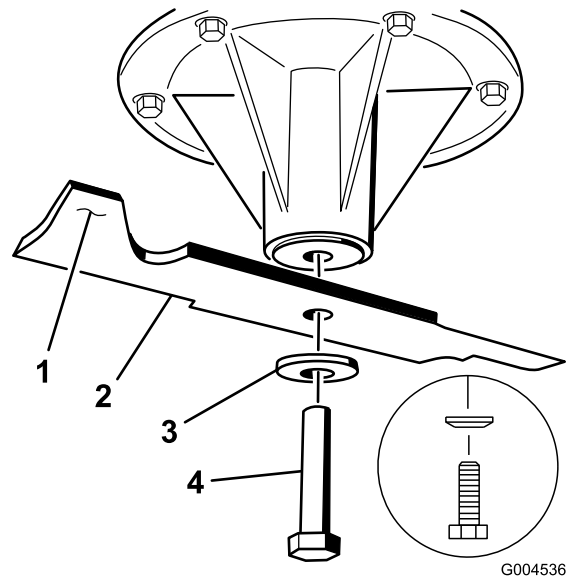

Figure 96
2. Remove the blade bolt, the curved washer, and the blade from the spindle shaft (Figure 96).